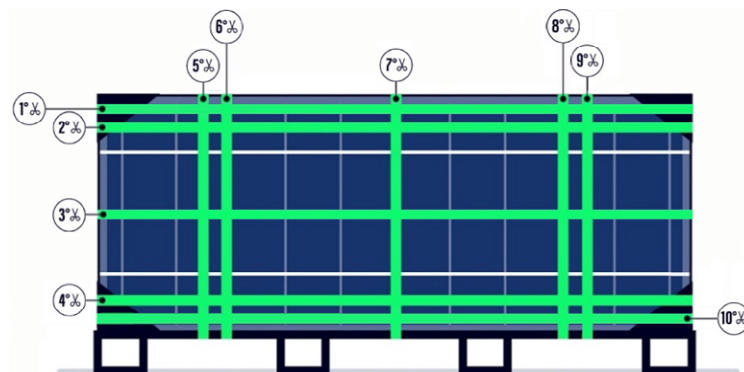

Figure 17: Positions of internal straps.
- c) Cut nine of the internal straps. First cut the horizontal straps #1, #2, #3, #4 (Figure 17), then cut the vertical straps #5, #6, #7, #8, #9, in any order. Do not cut strap #10 until step e).